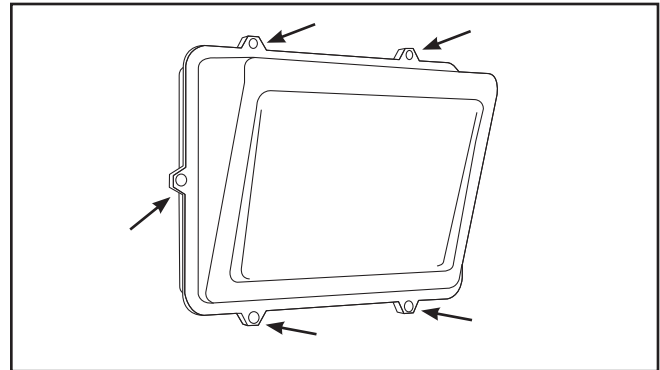

Figure 1.
1. Open the fixture by removing the six screws. (Figure 1.)